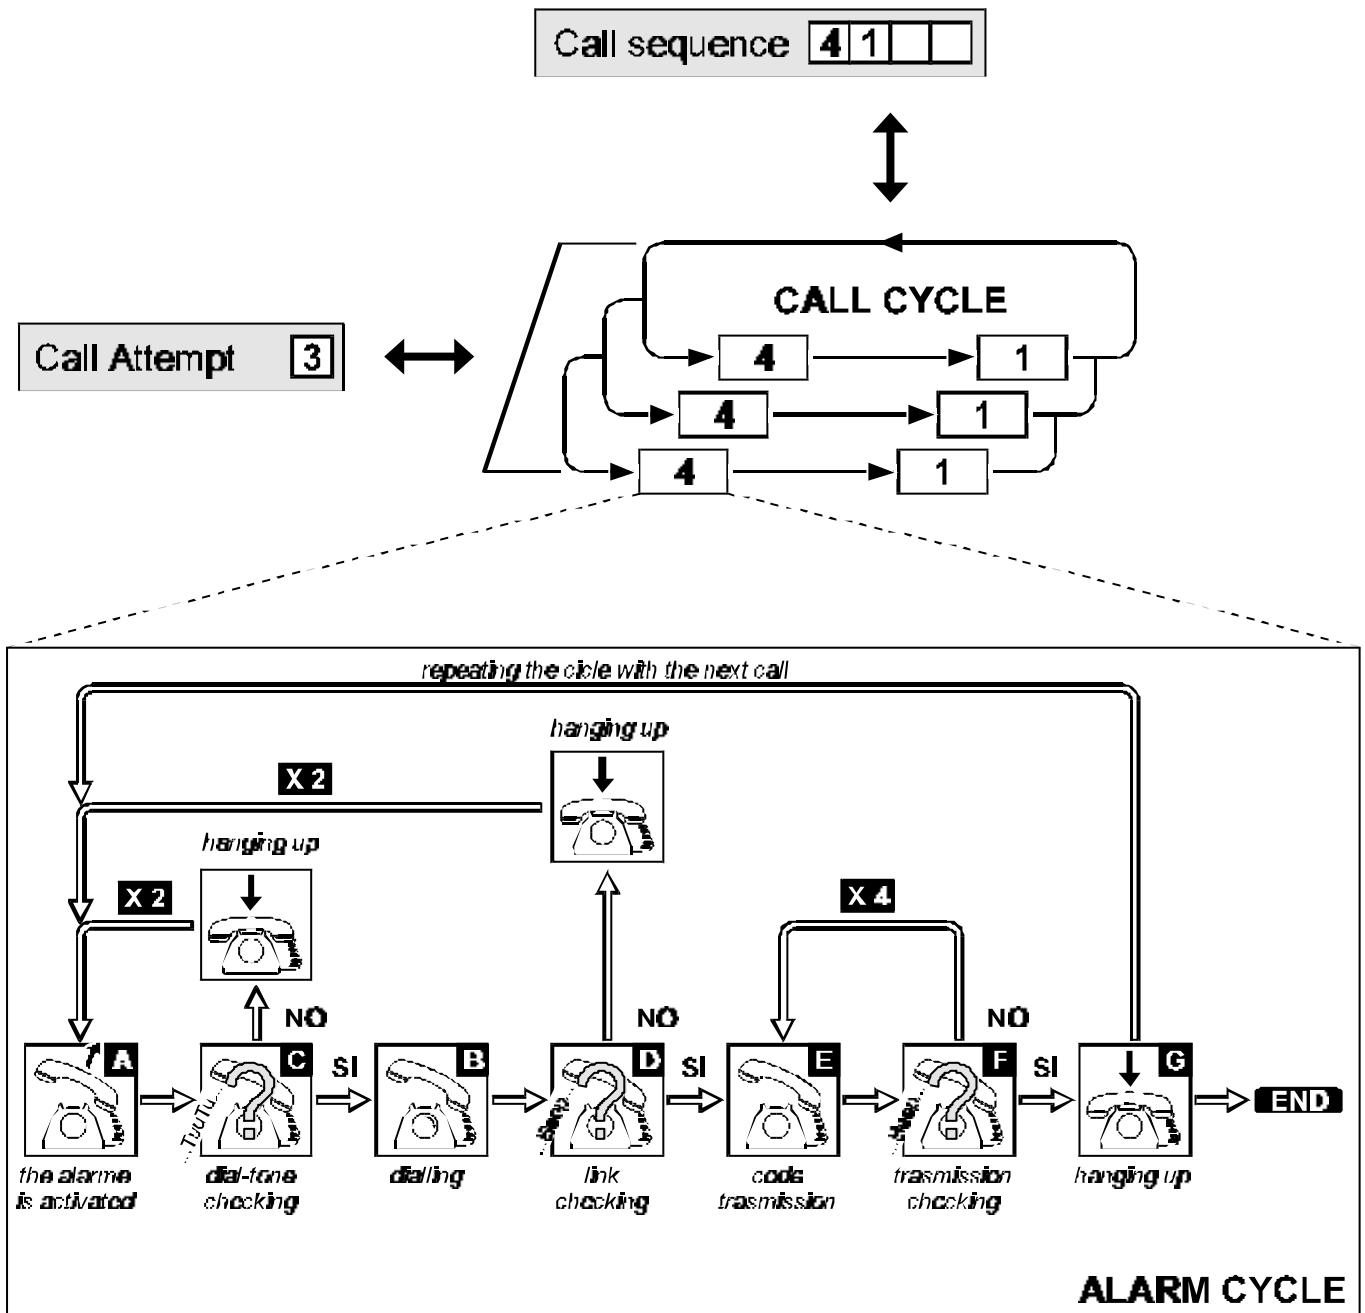

Figure 2
When a line is in alarm state the MD-COM carries out the alarm call cycle shown in figure 2. The MD-COM calls the telephone numbers in the sequence indicated in the Call Sequence field for the number of times entered on Call Attempt field, unless the letter **Y** has been entered in the Line Reset field. In this case the MD-COM interrupts the call cycle as soon as one of the numbers gives a positive outcome.
**Alarm cycle description** Following is shown the alarm cycle description in figure 2. (For the description of fields see on page 22).